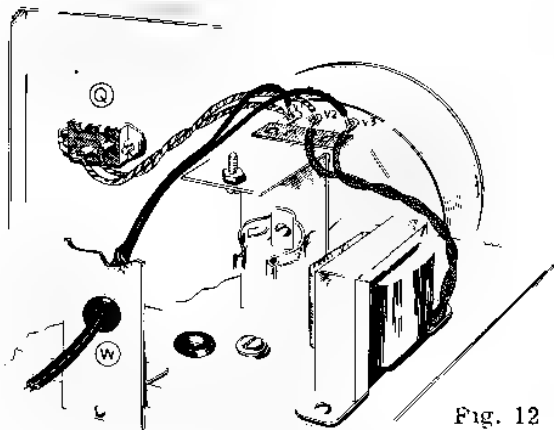

Fig. 12
- ( ) The free end of the 2½" length of wire on L1 connects to G3 (S).
- ( ) Connect a 47K resistor from L2 (S) to D2 (S).
- ( ) The free end of the 2½" length of wire to L3 connects to G8 (S).
- ( ) Connect one free lead of the 3½" twisted pair which is on pilot light M to G9 (S).
- ( ) Connect the other free lead of the pilot light 3½" twisted pair to G4 (S).
- ( ) Pass the free end of the 5" length of wire on P14 through grommet F and connect it to F3 (S).
- ( ) Pass the free end of the 4½" length of wire on R18 through grommet E and connect it to solder lug C (S).
- ( ) Study Figure 12 and connect one free lead of the 4" twisted pair which is on the OFF-ON switch (location Q) to V1 (NS).
- ( ) Connect the other free lead of the OFF-ON switch 4" twisted pair to V2 (S).
- ( ) The free end of the 2½" length of wire on P1 connects to K3 (S).
- ( ) Run a short bare wire jumper from P3 (S) to J3 (S).
- ( ) Run a wire from T1 (S) to the insert solder lug of black banana jack in location S (S).
- ( ) Connect a 3.3 Megohm resistor from P10 (S) to G2 (S).
- \* ( ) The outside foil lead of the .01 MFD condenser connects to H5 (S) and its other lead goes to P8 (S).
- ( ) Reversed Diodes; the outside foil lead of the .01 MFD condenser connects to (use spaghetti) H3 (S) and its other lead goes to P8 (S).
- ( ) Note Figure 12 and pass a 3/8" rubber grommet through the hole in location W.
- ( ) Split the line cord slightly and connect one lead to V1 (S).
- ( ) Connect the line cord's other lead to V3 (S).